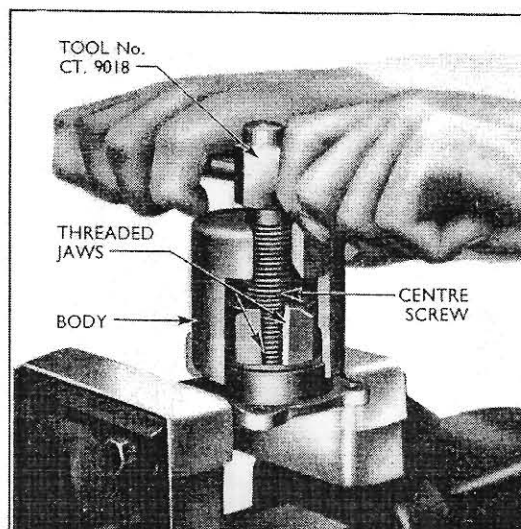

Fig. 19.
17. Remove the camshaft outer races from both bearing housings, using the puller (Tool No. CT.9018) as shown in Fig. 19. Ensure that the lips of the threaded jaws are located under the bearing outer race.